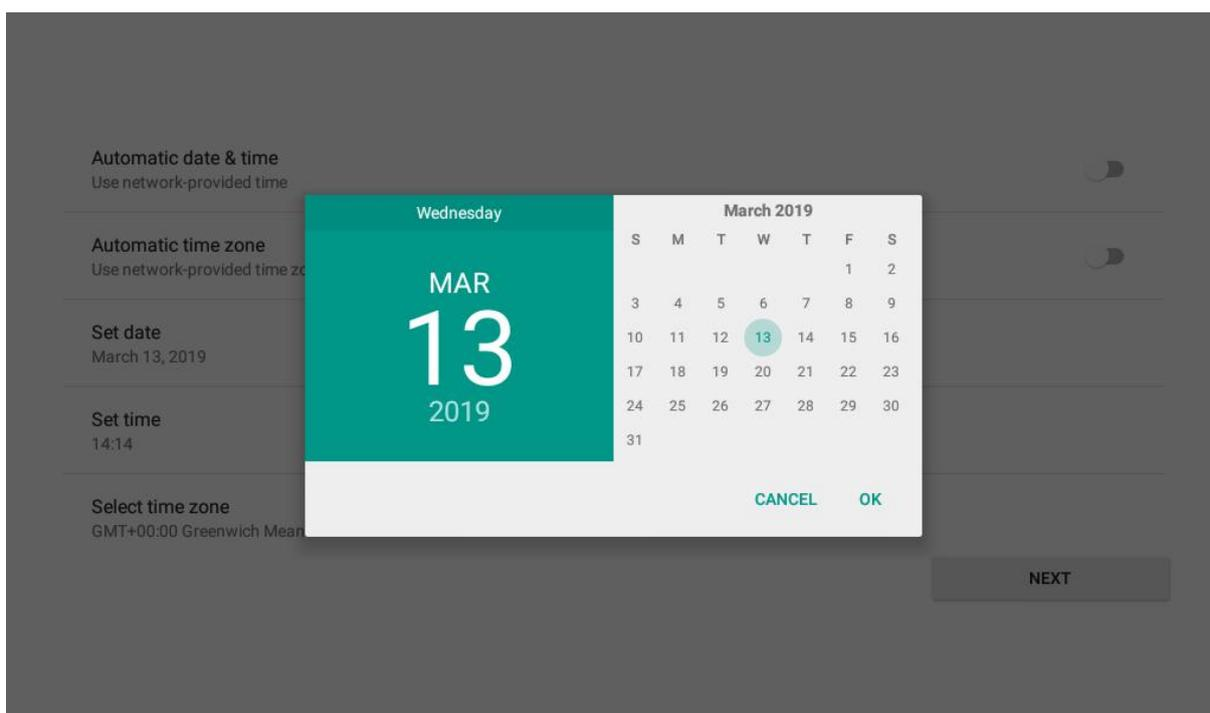

Fig 4.15 Date setting
① Click “Set date” to enter the interface as Fig 4.15, click the time button to unlock the date setting area, sliding setting the date.